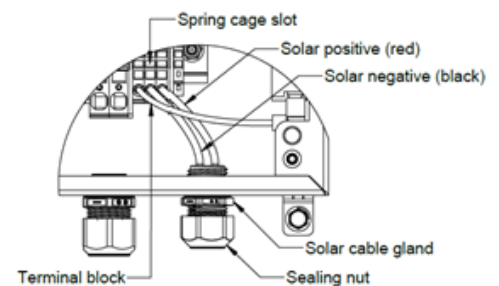

FIGURE 7
8. Cut back the split tube from the harness so the solar wires can be inserted through the solar cable gland (right) and the split tube is as close to the gland as possible. (Figure 7)
10. Strip back the solar wire insulations 3/8" (10mm). Use a small flat screwdriver, inserted into the spring cage slot, as a lever to disengage/engage the wire clamping mechanism and insert the bare wire into the terminal block. Ensure the solar positive wire (red) is inserted into the red terminal block and the negative wire (black) is inserted into black terminal block. (Figure 7).